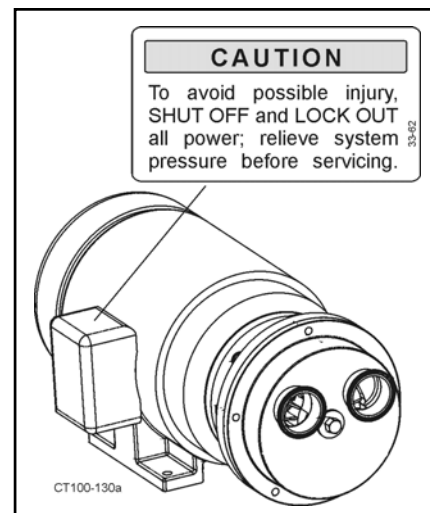

Figure 7 - Replaceable Label Location
- Check motor nameplate to confirm motor is compatible with all wiring, switches, starters and electrical supply. Ensure overload protections are correctly sized. (Figure 7).